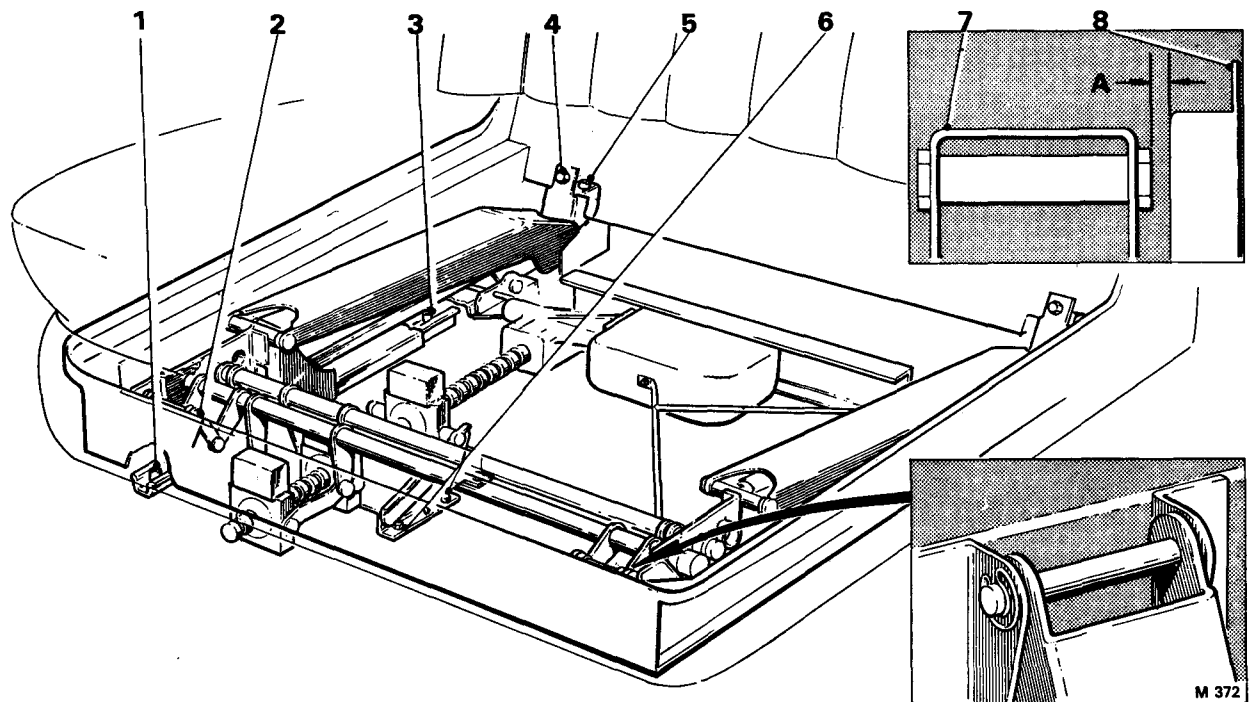

FIG. S33 FRONT SEAT MECHANISM (4-Door Saloon and Long Wheelbase Cars after Car Serial Number 9617)
- (b) **Cars after Car Serial Number 6000** (see Fig. S33). Remove the screws securing the brackets on the rear of the mechanism to the seat base. Remove the clips from the two pins securing the front of the mechanism to the seat base; remove the pins.
1. **Cars after Car Serial Number 6000.** When fitting the seat mechanism to the base, ensure that there is a minimum clearance of 0.015 in. (0.381 mm.) between the mechanism and the side of the seat base (see Fig. S33, inset).